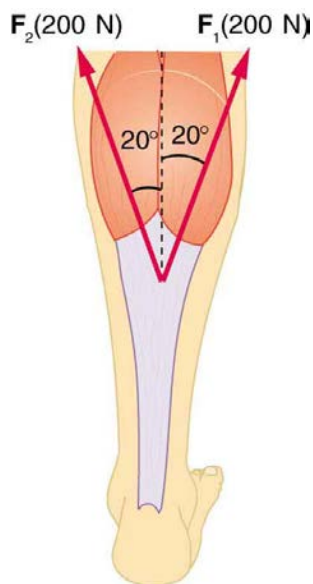

Figure 9.37 The Achilles tendon of the posterior leg serves to attach plantaris, gastrocnemius, and soleus muscles to calcaneus bone.
27. Two muscles in the back of the leg pull on the Achilles tendon as shown in **Figure 9.37**. What total force do they exert?